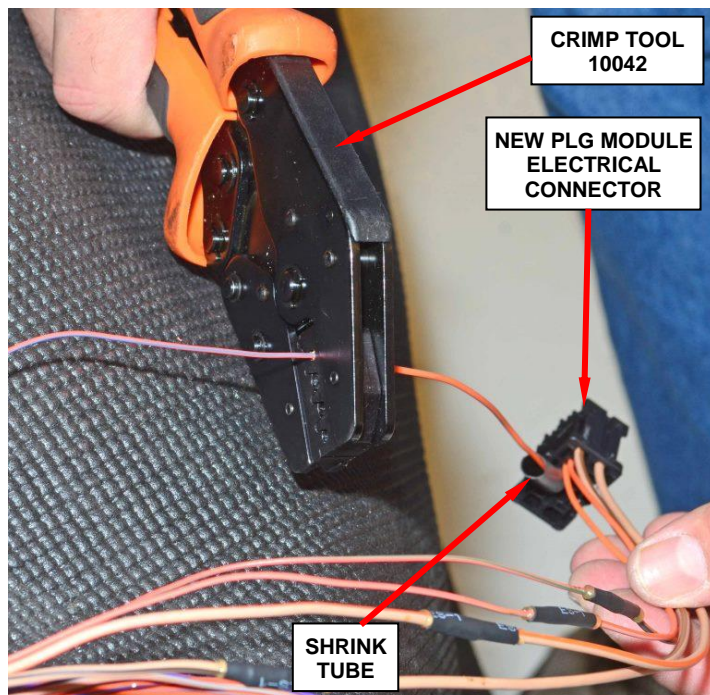

Figure 12 – Install Brass Crimp
- d. Using a brass splice band and crimp tool 10042, crimp the wire harness side wire to the matching color wire on the new connector pigtail (Figure 12).